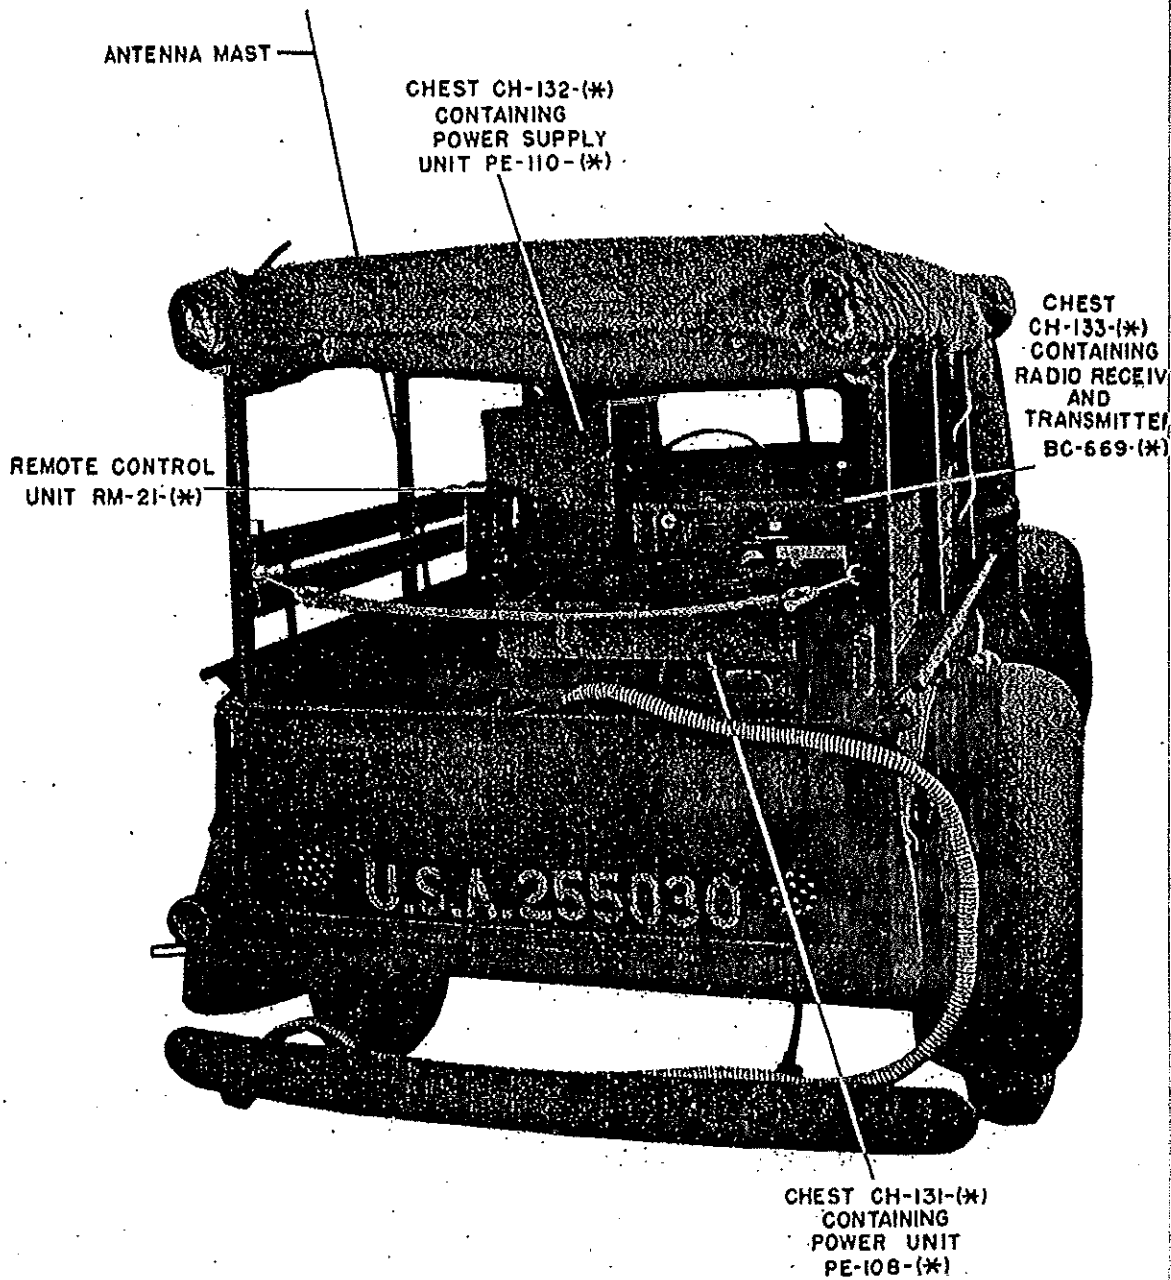

Fig. 11 - Radio Set SCR-543-(*) Installed in 1/2 Ton Pick-up Truck.
- j. (1) If you want to operate Remote Control Unit RM-21-(*) at a distance from the transmitter, remove Cord CD-513-(*) from Chest CH-132-(*) and insert it between the cord attached to Remote Control Unit RM-21-(*) and receptacle PL₈ on Radio Receiver and Transmitter BC-669-(*).
- (2) In the event that Radio Frequency potentials (indicated by sparks, shocks or burns) should appear on Remote Control Unit RM-21-(*) when Cord CD-513-(*) is used, ground the remote control unit as follows:—
14. INSTALLATION IN ½ TON PICK-UP TRUCK (See Figure 11).—
- f. (1) Drill four holes in the seat-back rails directly behind Chest CH-132-(*). Use Mast Bracket MP-50 as template. In SCR-543-A use Mast Bracket MP-50 having removable wing nuts. This mast bracket is not supplied with SCR-543-B, C and will have to be obtained from the supply depot.